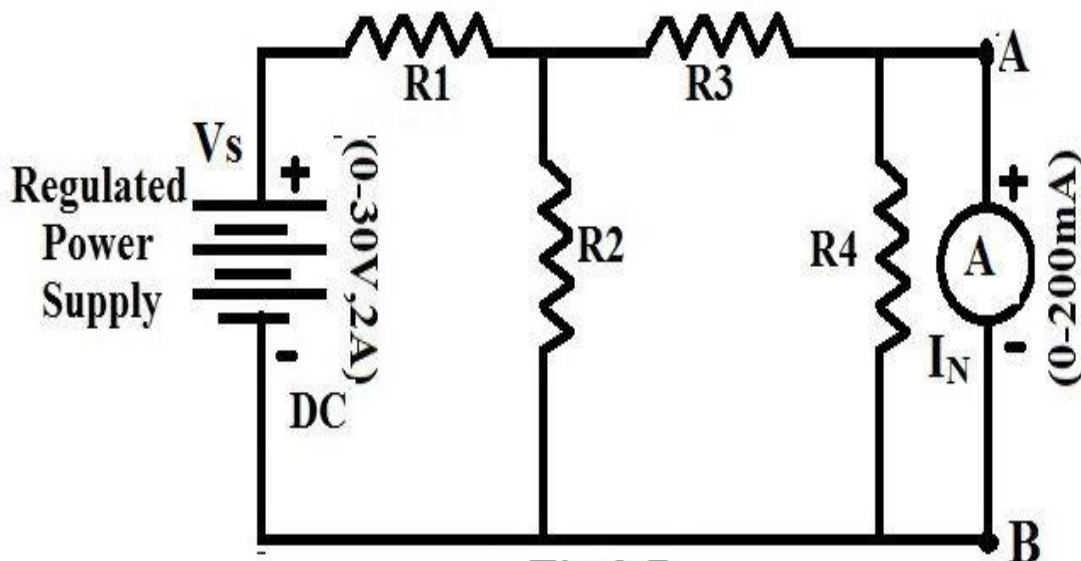

Fig:2.7
1. Connect the circuit as shown in Fig: 2.7 and by applying supply voltage $V_s=5V$ through RPS, determine the short circuit current (I_N or I_{sc}).